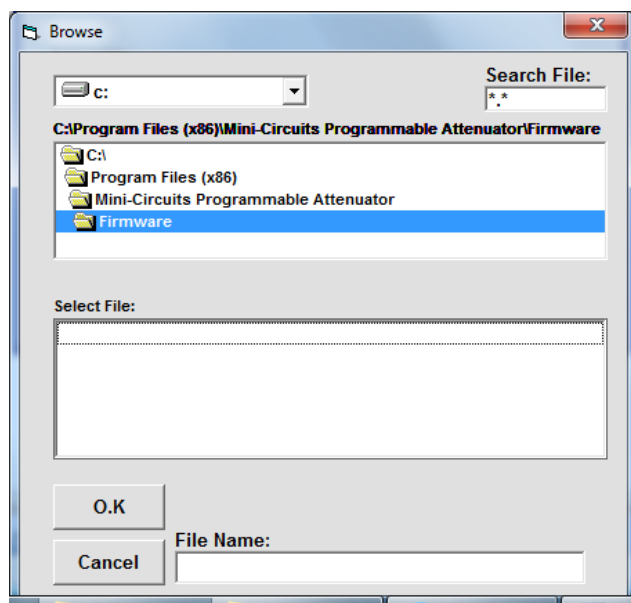

Figure 3.6.5: Firmware - Browse Window
3.6.5 **A browse window will open to the firmware directory** under the path you selected when installing the GUI program (See **Fig. 3.6.5**). Navigate to where you saved your firmware file, Select the firmware version you wish to install and click ' O.K'.